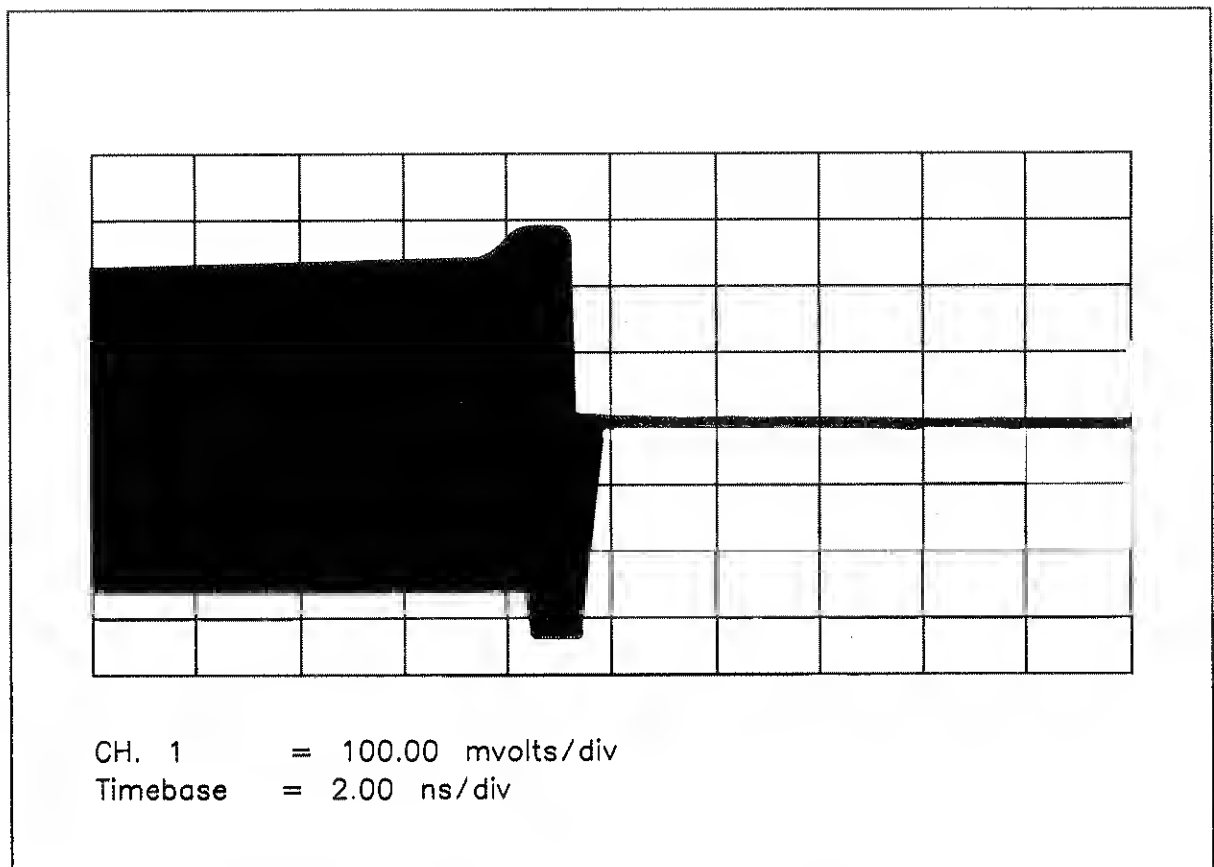

Figure 3-17. Pulse Modulation Pulse Falltime Waveform
11. Set the Signal Generator's carrier frequency as given in the following table. For each setting, measure the 10% to 90% falltime. Compare the waveform with figure 3-17. The falltime should be less than 8 ns.